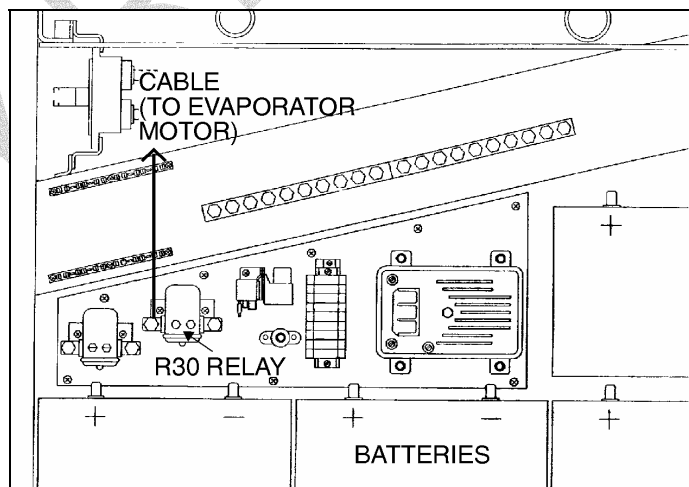

FIGURE 3
8. Scrape off caulking around grommet. Cut cable ties and undo retaining clips on route of cable. Disconnect cable from R30 relay's left terminal (Fig. 3). Pull cable out through grommet, then discard.